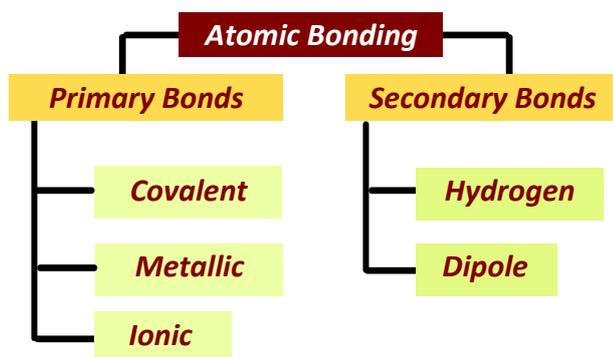

Figure 2.8 : Types of Atomic Bonding
- Refer to Element Periodic Table, list FIVE (5) elements that are metals and FIVE (5) that are non-metals.
- Atomic bonding can be categorized as primary and secondary bonds as shown in Figure 2.8.